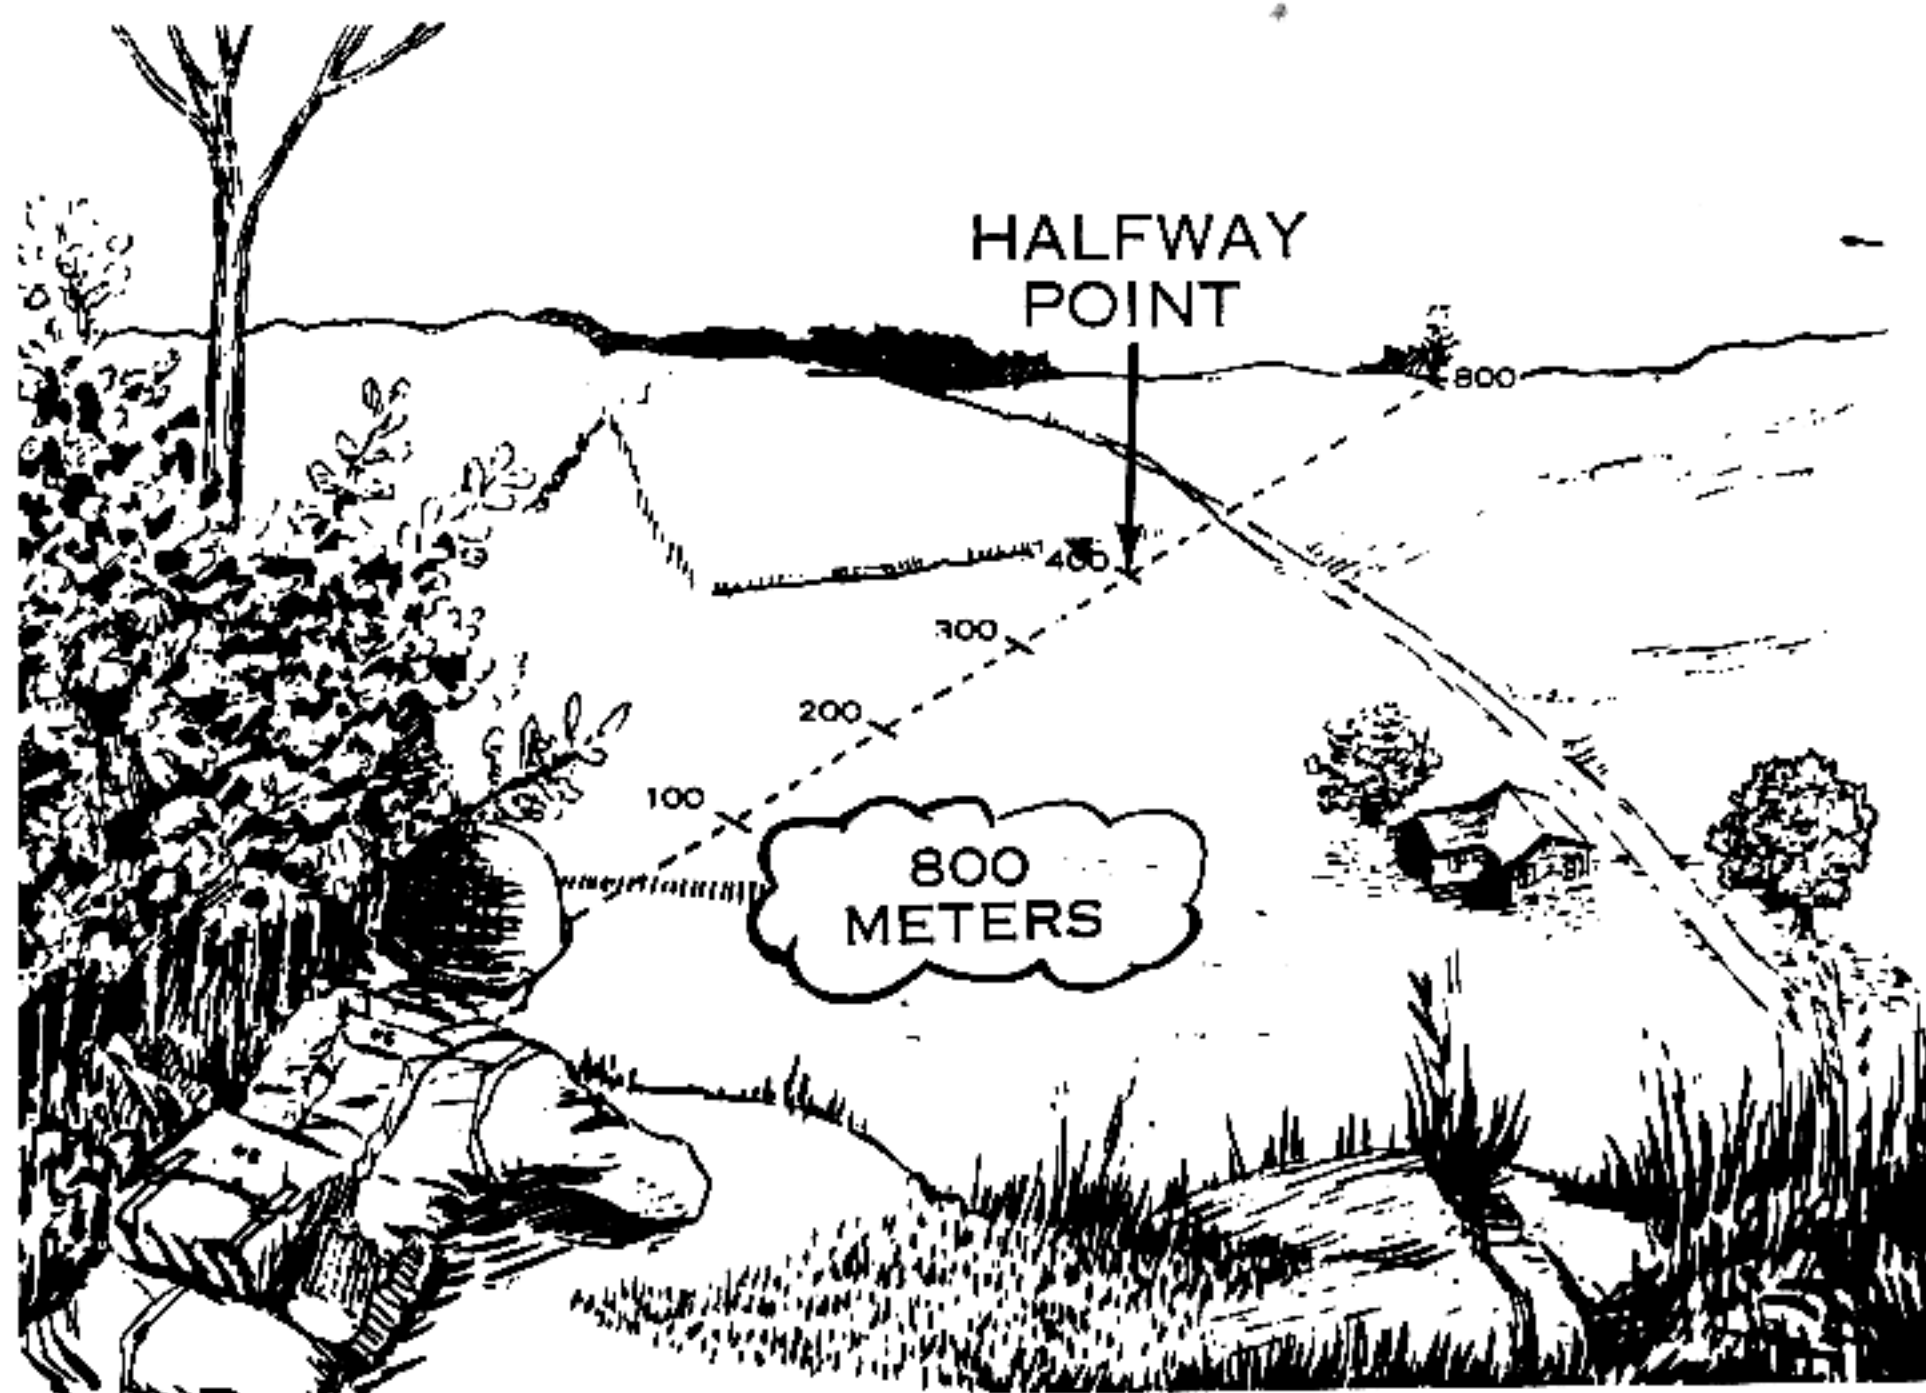

Figure 132. Applying the 100-meter unit of measure method for ranges greater than 500 meters.
(1) For ranges from 500 to 1,000 meters, the soldier selects a point halfway to the target, determines the range to the midpoint by applying the 100-meter unit of measure, then doubles the estimate (fig 132). This method of determining range is not accurate beyond 1,000 meters.
(2) Certain types of terrain will affect the appearance of 100-meter units of measure. On terrain that slopes upward toward the target, 100 meters appears longer than on level terrain; on ground that slopes downward toward the target, 100 meters appears shorter than on level terrain.